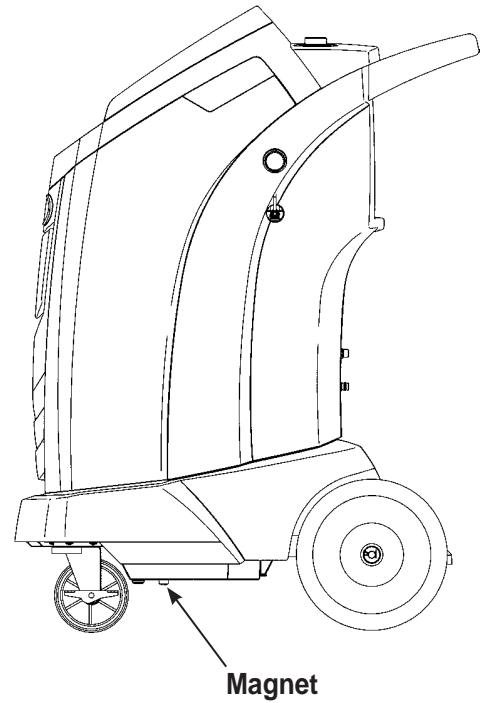

Figure 8
1. Refer to Figure 8, and verify the magnet on the bottom of the machine is clean.